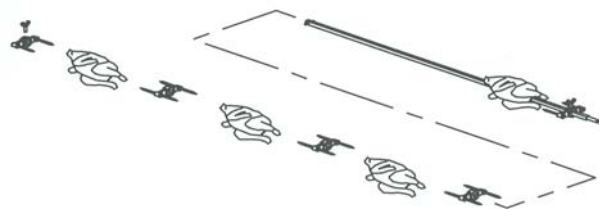

Fig. 5
- Put the chickens on the spits as shown in fig. 5